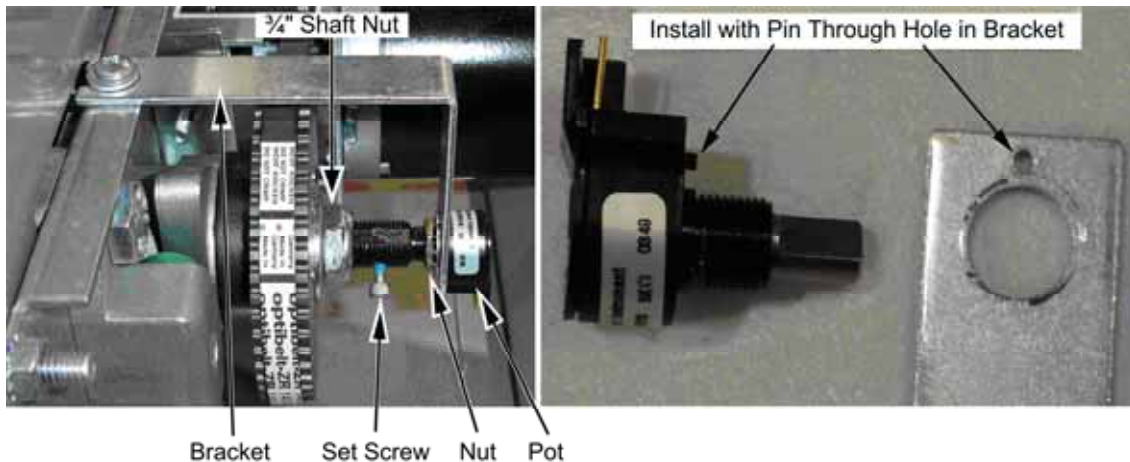
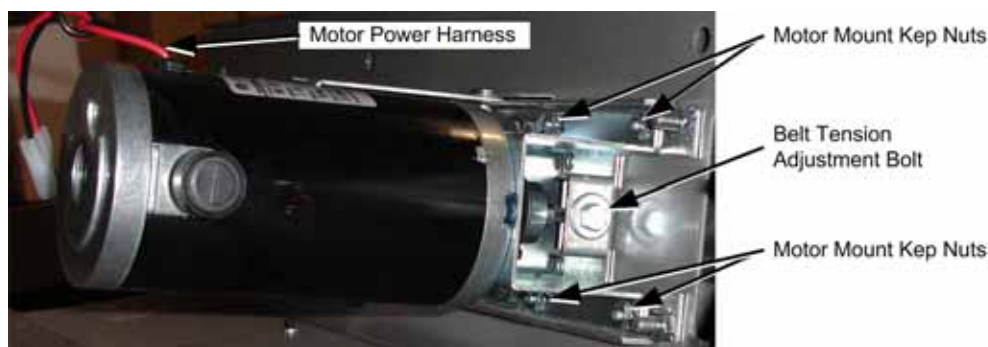

Figure 18. Replacing the 5 K Ω Steering Pot
Figure 19. Servicing the Steering Motor
To replace a pot, refer to Figure 18 and perform the following steps:
4. Reverse these steps to install the new pot. Install the pot with the plastic pin through the small hole in the bracket, as shown in Figure 18 below. Use Loctite to ensure the set screw is secure.
Refer to Figure 18 above, and Figure 19, and perform the following steps to remove the force-feedback belt for repair. Always replace the belt if it looks cracked or worn.
2. Using a 7/64 Allan wrench, loosen the set screw from the steering column and remove the bracket with the pot attached (see Figure 18).
3. Loosen the four (4) 3/8" motor mount Kep nuts that secure the steering motor to the frame (see Figure 19).
4. Using a 10mm socket wrench, loosen the belt tension adjustment bolt several turns until you can slip the belt off of the motor and steering gears (see Figure 19).
6. To replace the motor, remove the four (4) 3/8" Kep nuts that you loosened in step 2, and remove the motor.
1. Tighten the tension adjustment bolt on the motor assembly, shown in Figure 19, until the belt is fully stretched, and then loosen the bolt by ½ turn.